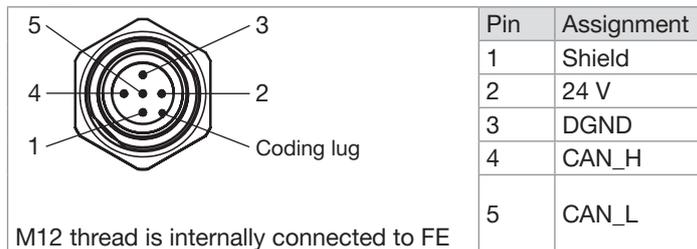

Fig. 18: bÜS /CANopen MFM, bÜS /CANopen MFC:Pin assignment, 5-pin M12 male connector (A coding)
- Insert each conductor into the appropriate pin. Refer to Fig. 18.